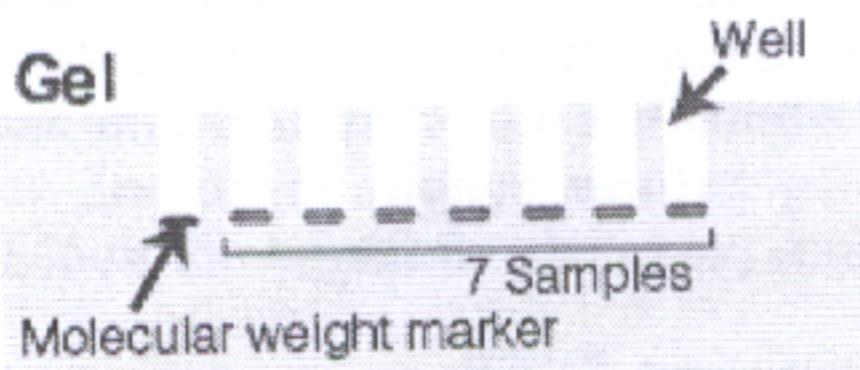

Figure 7: Example of Loading Visual
- 4.3. Slowly load the samples in the wells so that there is a clear rectangular setting of your loading solution at the bottom of the lane (Figure 7).